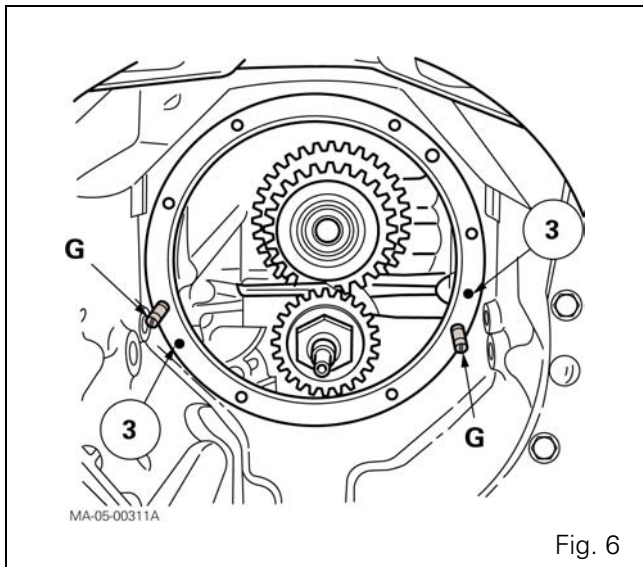

Fig. 6
12. Recover the cup (64) (Fig. 6) and locating pin (4) (Fig. 5).
14. Check for the presence of the cup (64) (Fig. 6).
15. Fit the gearbox and input unit with new O'rings (2) and (3).
13. Discard the O'rings (3) (Fig. 6).
19. On the gearbox housing (Fig. 6) place:
- new O'rings (3),